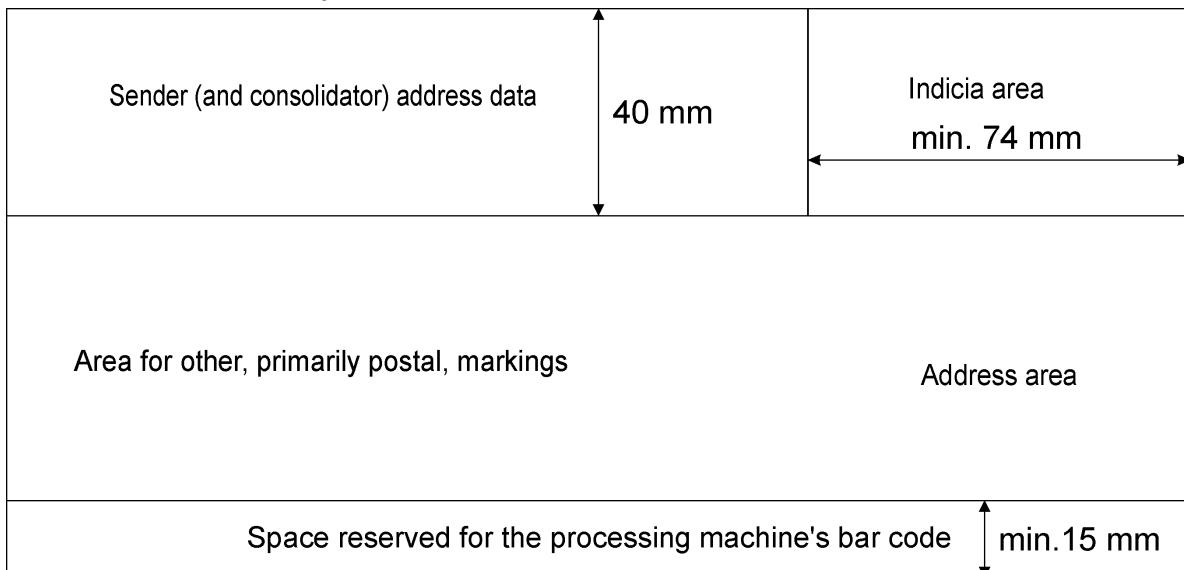

Figure 15: Front of ordinary and medium-sized items
- a) Sender (and consolidator) address data (*marked green in Figure 15*).